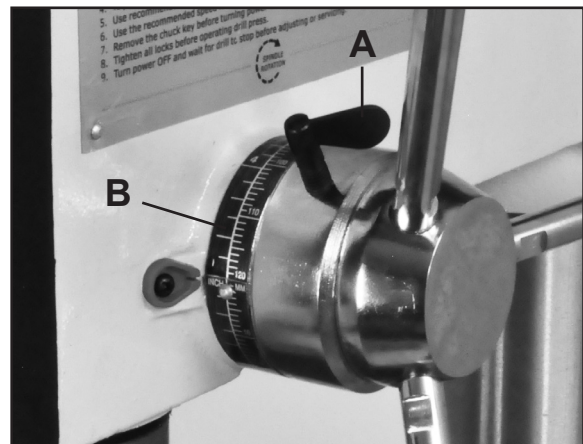

Figure 17
1. Loosen the depth stop collar locking screw (#6D) that extends out from the hub. (Figure 17, A).
3. Turn the depth stop collar clockwise until the collar stops (Figure 17, B).
1. With the spindle in the up position, loosen the depth stop collar lock as shown. (Figure 17, A)
2. Turn the depth stop collar clockwise until the pointer reads the desired drill depth on the scale (Figure 17, B).